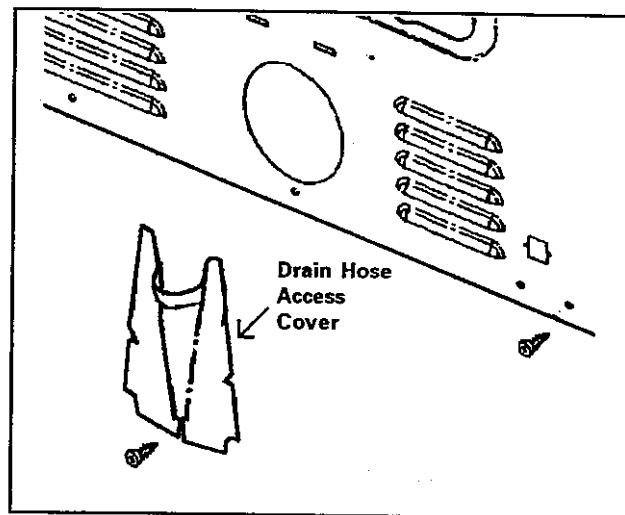

Figure 6-10
3. Remove the 1/4" hex-head screw securing the drain hose shield. Remove shield (**Figure 6-10**).